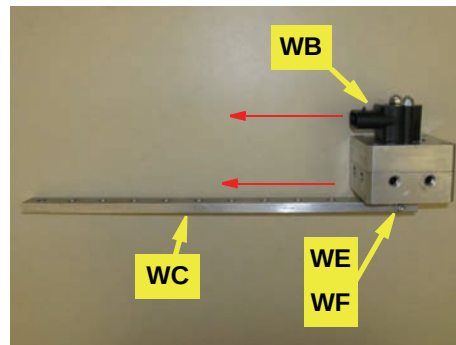

Figure 1c: Attached WAS arm
- Using hardware **WE** (nut) and **WF** (screw), attach the cut WAS arm **WC** to the WAS assembly. The arm should be mounted in the same direction as the WAS wire connector **WB** (Figure 1c).